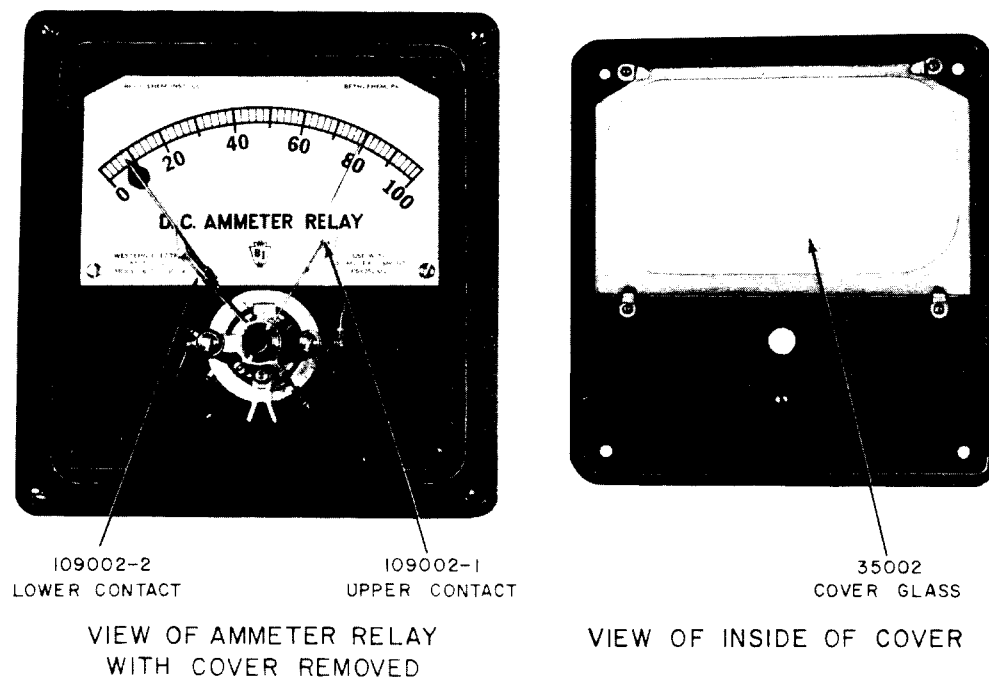

Fig. 1—KS-5662 Ammeter Relay
2.01 Fig. 1 through 3, included in this part, show three ammeter relays that are typical. The piece-part numbers and corresponding names of the replaceable parts for specific ammeter relays are shown in the figures and in Table A.